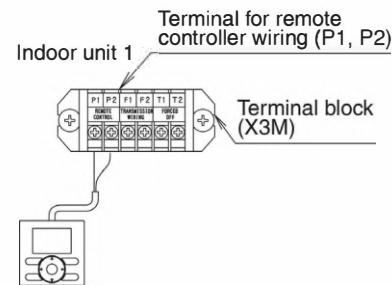

Fig. 26
- (1) Remove the control box lid.
- (2) Connect wiring between the terminals (P1, P2) inside the control box for the remote controller. (There is no polarity.) (Refer to Fig. 26)